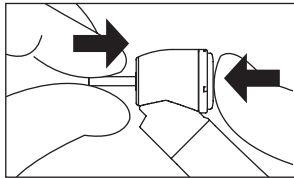

Fig. 3
- 1) Insert the bur until it is correctly seated in place. (Fig. 3)